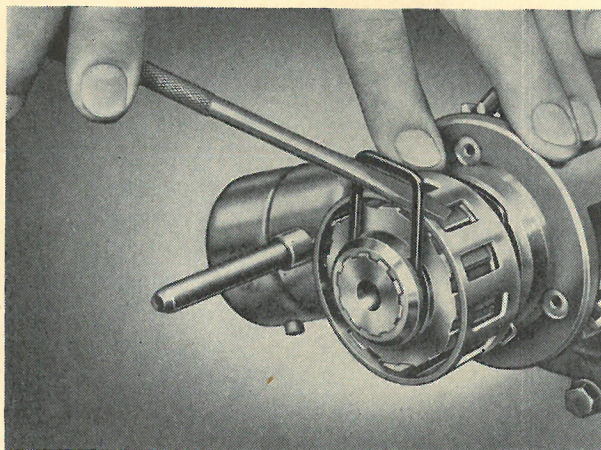

Fig. FF.21.
5. The planet carrier and roller clutch are secured to the end of the gearbox mainshaft by a snap ring, which must be removed as shown in Fig. FF.21, permitting the planet carrier and roller clutch to pull away from the shaft.